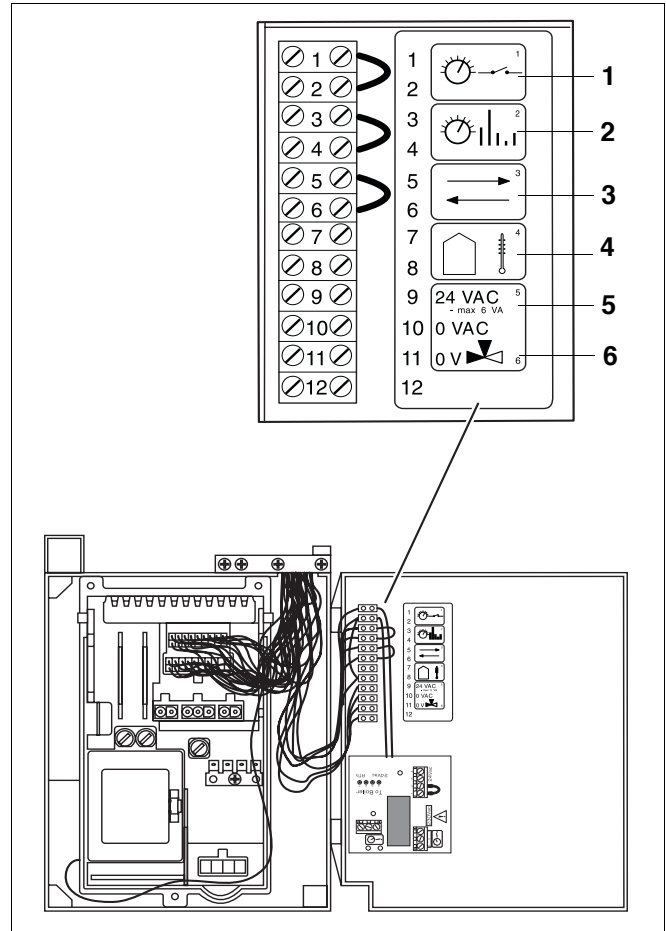

Fig. 87 Checking the controller-device connections at the boiler
- Terminals 1 and 2 should not be wired in any way. The unit is supplied with a dummy connector between terminals 1 and 2 (fig. 87). The DC voltage at terminals 3 and 4 should be approx. 11.5 V. If this is not so, the UBA or the cable harness is defective.
It is possible, in order to limit the source of errors, to disconnect the ModuLink or iRT from the boiler (bridge required at 3 and 4) and to install a conductor bridge at 1 and 2 (fig. 87). The heating and hot-water requirement is then passed via the potentiometer setting of the UBA.